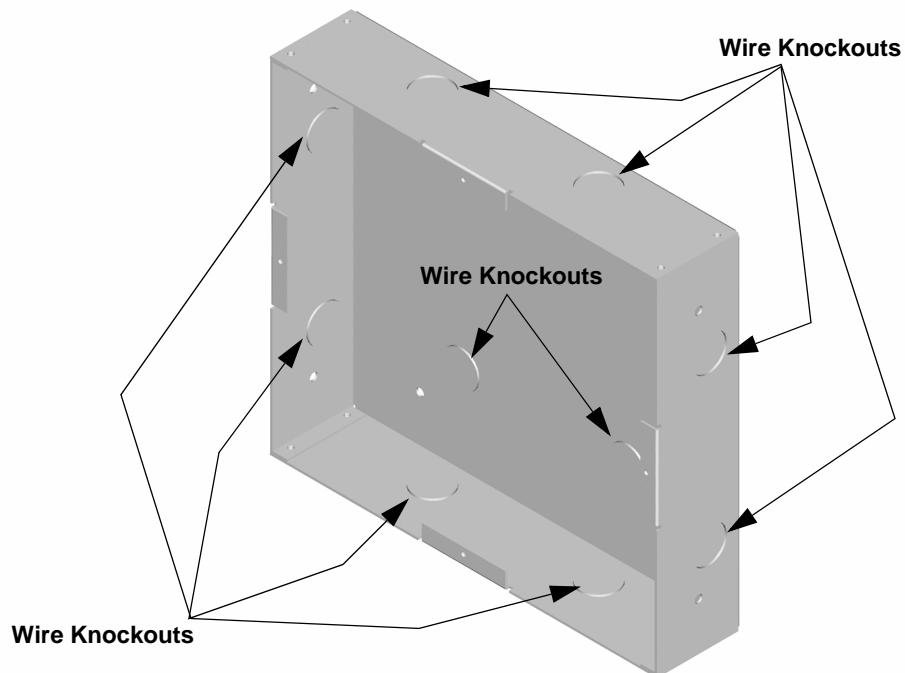

Figure 4.17 Back Box Knockout Locations
2. Remove knockout holes as needed for wires. See Figure 4.17 for backbox knockout locations.
1. Remove the desired knock out. See Figure 4.17.